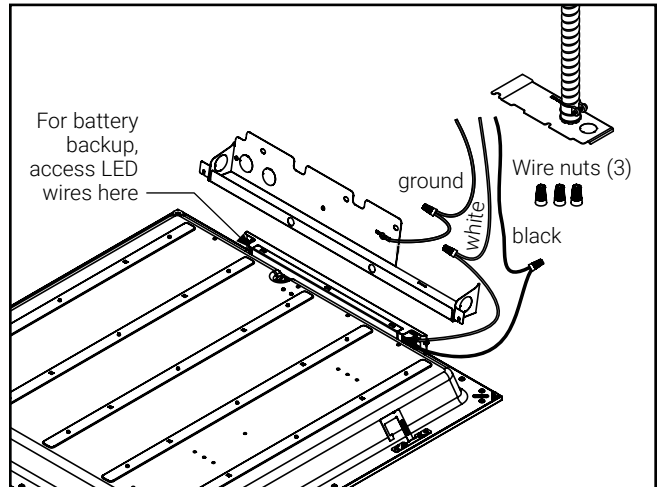

Figure 5.
2. Using the open knockout bring in the supply line. Using the three provided wire nuts to attach the ground wire to the ground supply wire, the black (line) wire to the black supply wire, and the white (neutral) wire to the white supply wire (Fig. 5).
NOTE: This fixture is compatible with battery backup systems including the Surelites EBPLED7W and EBPLED14W. If using a battery backup system remove driver cover plate to access LED load wires and follow battery backup wiring instructions (Fig. 5). Ensure driver cover plate is reinstalled after wiring.